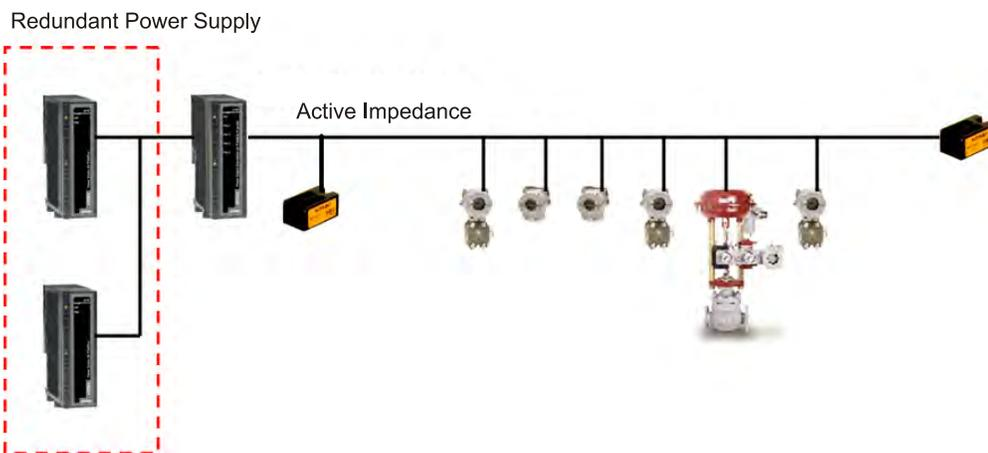

Figure 1.21 –Power Supply Redundancy
- a) Power supply redundancy, according to Figure 1.21.